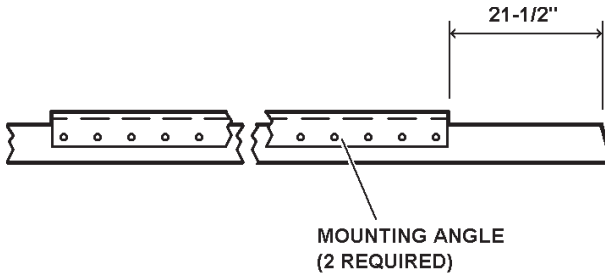

FIGURE 7.4
- (a) Clamp mounting angles to chassis frame as shown in Figure 7.4.